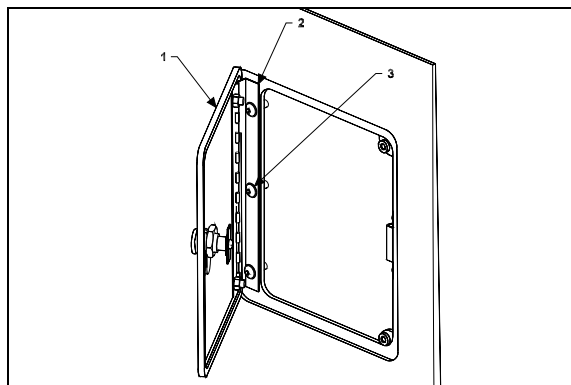

FIGURE 70: FUEL FILLER DOOR
1. Open the fuel filler door (1, Figure 70).
2. Loosen the screws (3, Figure 70) holding the panel to hinge (2, Figure 70) assembly.